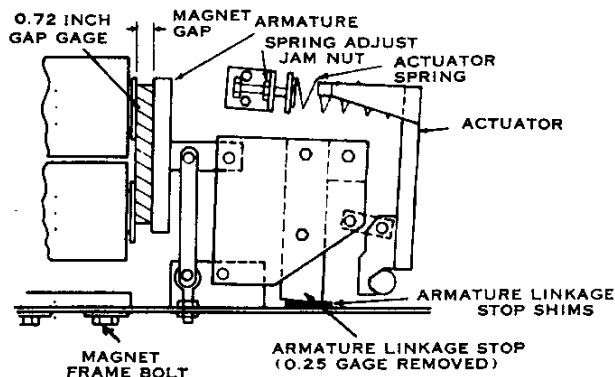

Fig. 58. Magnet and return-spring assembly
- (b) Install the actuator spring and adjust the spring-adjusting bolt so that when the magnet is moved to the sealed or fully closed position and slowly released, the contact tips will return to their fully wiped position. The spring-adjusting bolt should then be given one additional turn in the direction to tighten the spring (see Fig. 58, page 32).